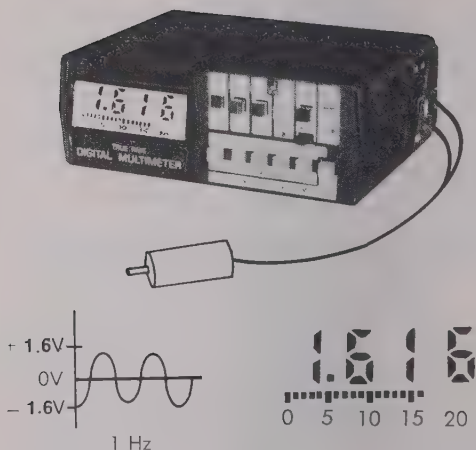

Figure 6-1. Low Frequency Measurements
6.2.2 As an example of the low frequency signal measurement application, consider a servo-control system in which the position of a slowly rotating shaft is converted into a voltage proportional to the sine of the shaft's angular position. The test setup required is shown in Figure 6-1.
6.2.3 To measure the low frequency signal shown in Figure 6-1, use the following procedure:
- d. Depress the PEAK HOLD button. The positive peak voltage (+ 1.6 V) will be held and displayed as shown in Figure 6-1. Note that the bar graph is still following the input signal. The bar graph is not affected by the peak hold function.